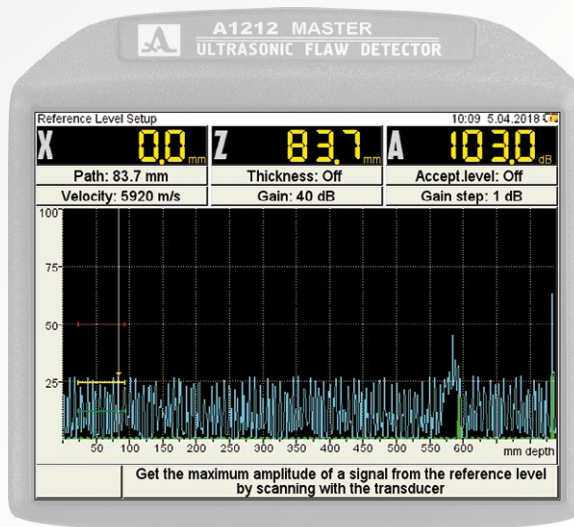

Figure 17
- select the "Reference level" parameter and activate it by pressing the  key. A configuration window of the reference level will be opened (Figure 17);